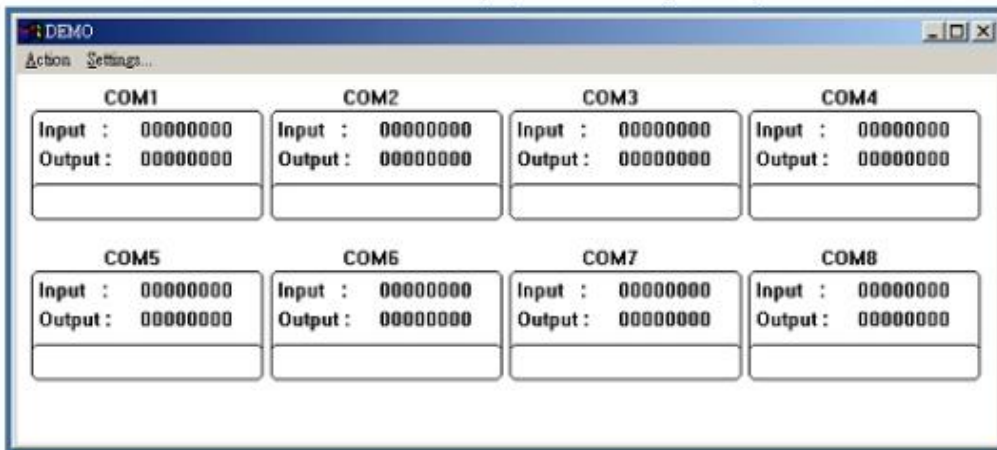

Fig.1
STEP1: Run the “DEMO.EXE” utility (See the Figure 1).